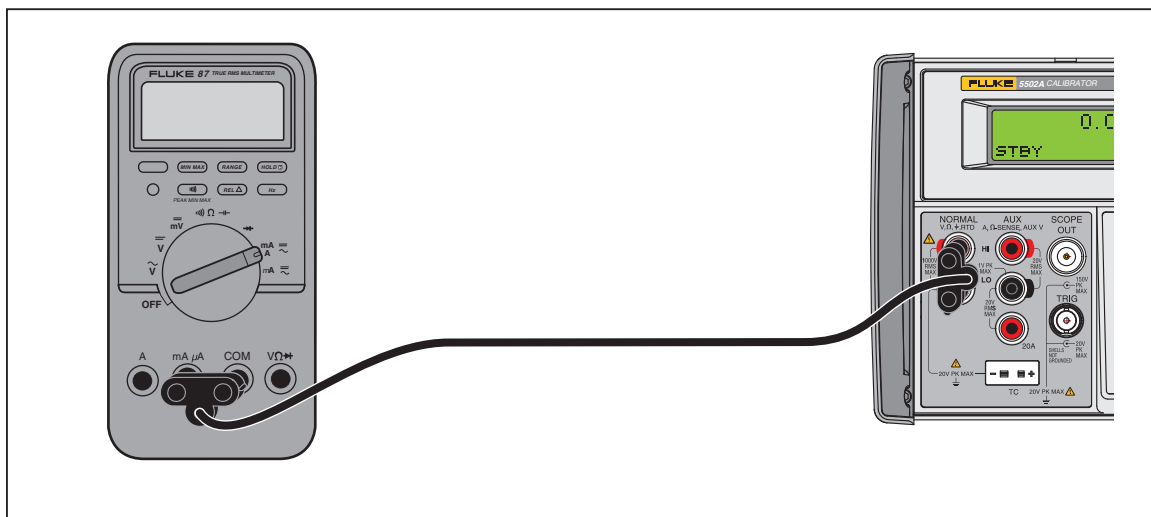

**Figure 4-16. Cable Connections to Verify an 80 Series Current Function**
- b. Make sure that the Calibrator is in standby and connect the DMM as shown in Figure 4-16.
3. Connect a set of test leads to the DMM as shown in Figure 4-16.